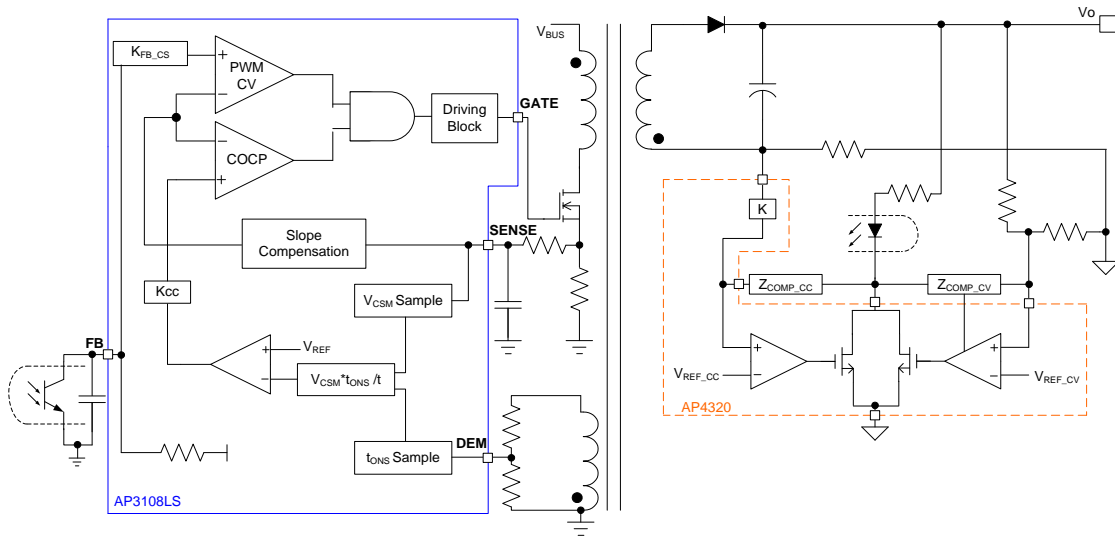

Figure 1
Figure 1 describes how the AP3108LS and AP4320 work together to achieve constant voltage (CV), constant current (CC) and primary constant OCP (COCP) control. At secondary side, the sensed output voltage or output current signals are compared with the corresponding reference V_{REF_CV} and V_{REF_CC} in AP4320. The inner CV and CC amplifier combine with an external compensation network to generate an amplified error signal and transfer to the primary side FB pin through the opto-coupler. It's noted that only one amplifier works at one moment between CV and CC amplifier. The scaled FB voltage comparing with the SENSE voltage after slope compensation will turn off primary switch and determine the duty cycle.